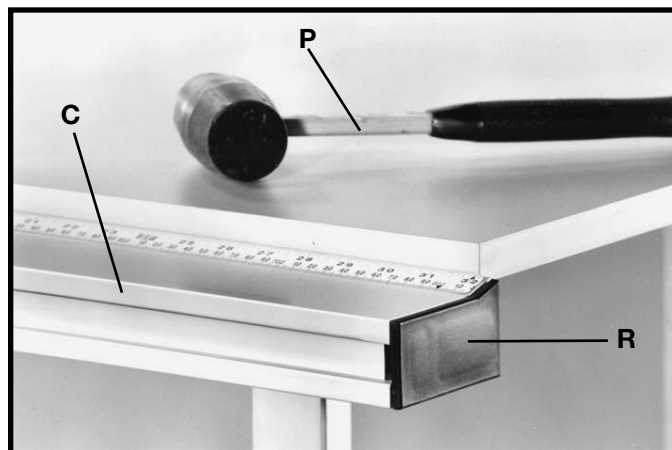

Fig. 66
3. Using a rubber mallet (P) Fig. 66, or a hammer and a block of wood, gently tap end cap (R) into both ends of the guide rail (C). **NOTE:** To avoid damage to the guide rail, **DO NOT** use a metal hammer directly against the guide rail.